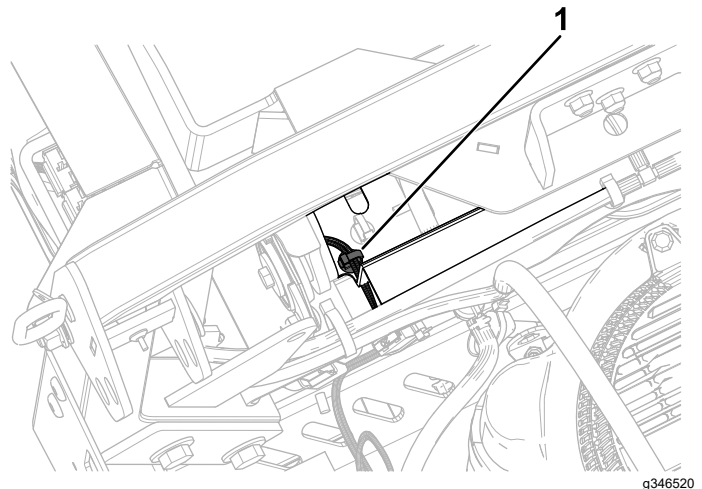

Figure 19
3. Install the second push-mount fastener into the rear fuel-tank bracket (Figure 19).